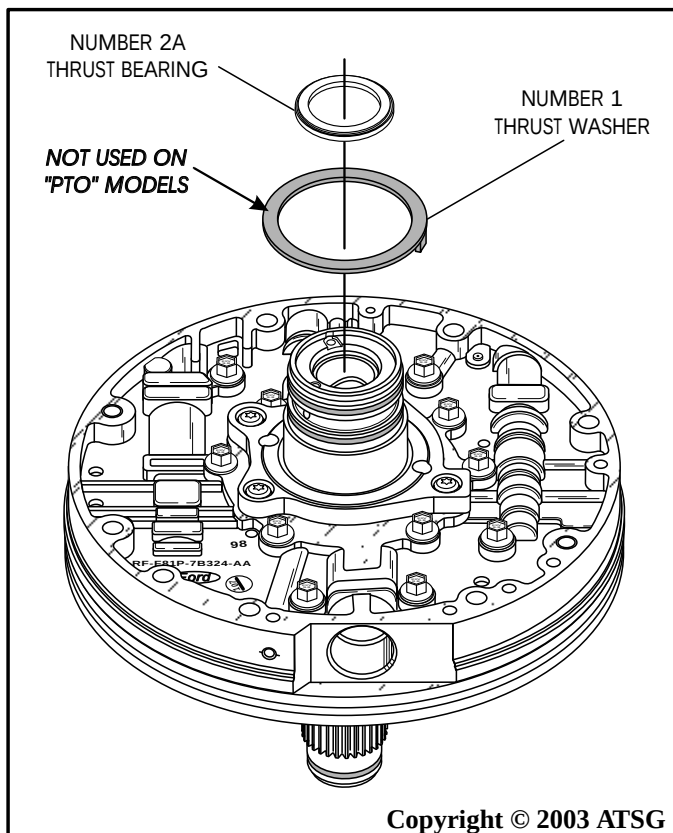

Figure 170
20. Install the number 1 thrust washer, as shown in Figure 170, and retain with Trans-Jel®, *if* you are building a unit that is not PTO equipped.
21. Install the number 2A thrust bearing in the direction shown in Figure 170, and retain with Trans-Jel®.